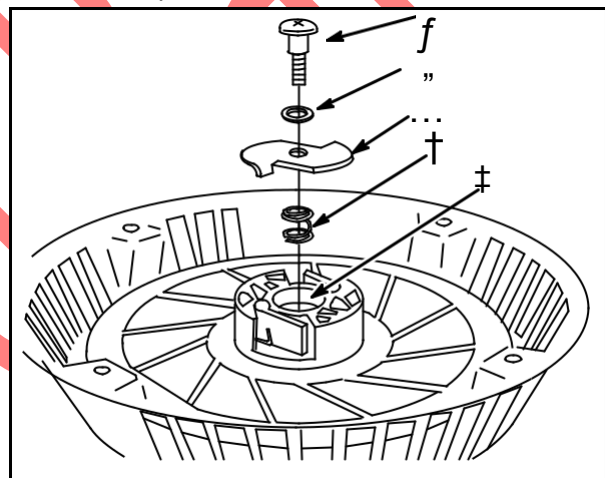

Fig. 73
Place large washer (7), brake spring (6) and retainer (5) on pulley, **Fig. 73**.